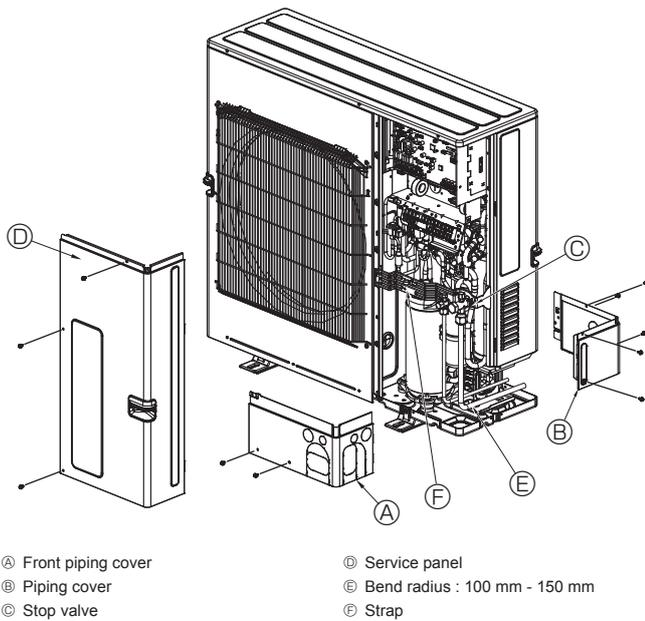

Fig. 4-10
4.3. Refrigerant piping (Fig. 4-10)